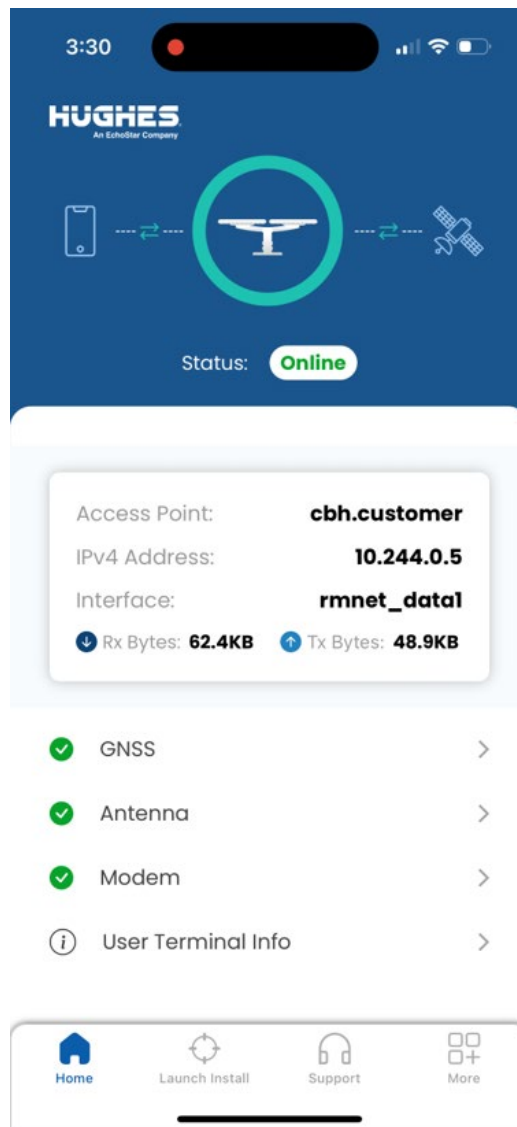

Figure 105: User terminal status screen
4. The dashboard screen appears, as shown in Figure 105. The **Status** field will show *Online* when the UT is connected to the OneWeb network and user devices can access the internet.